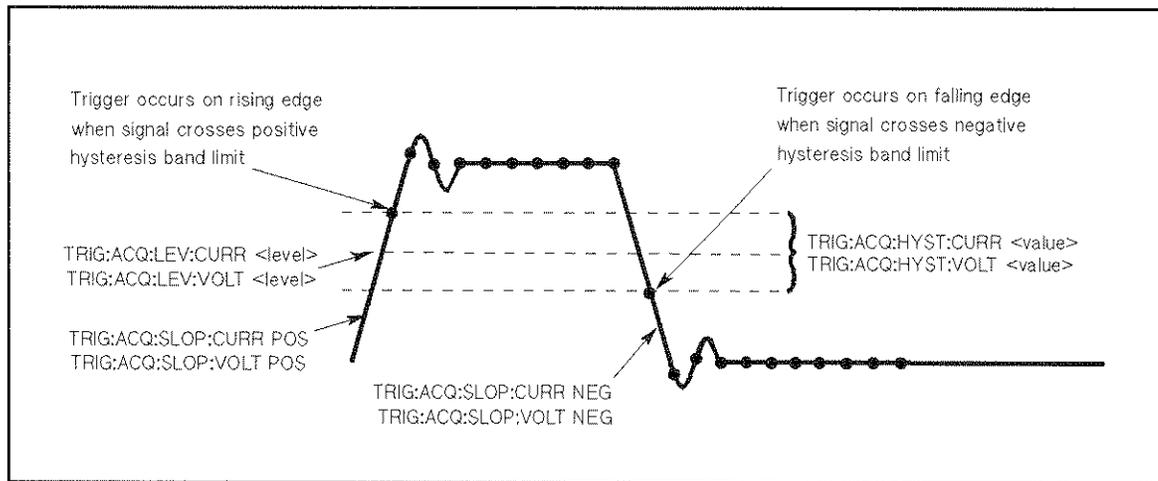

Figure 3-3. Trigger Commands Used to Measure Output Pulses
**Internal Triggers** To trigger off of the output signal, you must specify the output level that generates the trigger, the rising or falling edge of the slope, and a hysteresis to qualify trigger conditions. This is illustrated in figure 3-3.